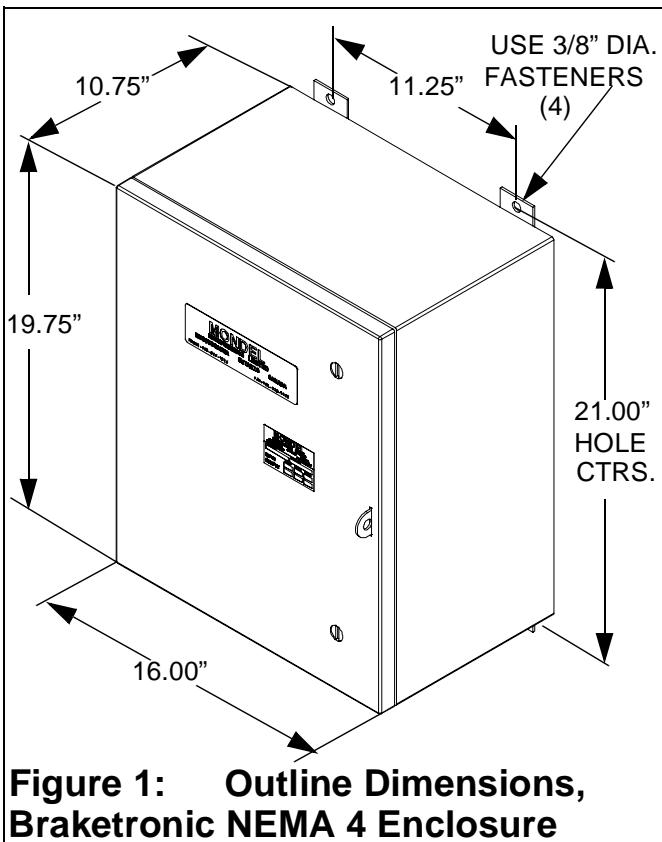

Figure 1: Outline Dimensions, Bracketronic NEMA 4 Enclosure
2.9.(a) : The solid state drive, user terminals, fuses, circuit breakers and optional auxiliary devices such as filters, relays, selector switches and transformers are housed in a stainless steel NEMA 4 wall - mounting enclosure shown in Figure 1.